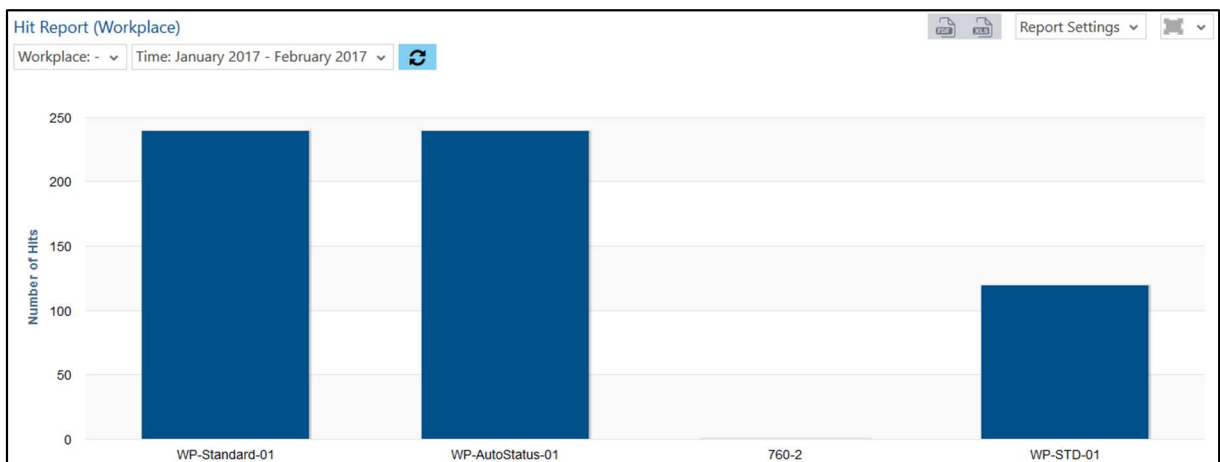

Fig. 90: Hit Report (Workplace) as a bar chart
- Hit Report (Workplace) as a bar chart (Fig. 90):